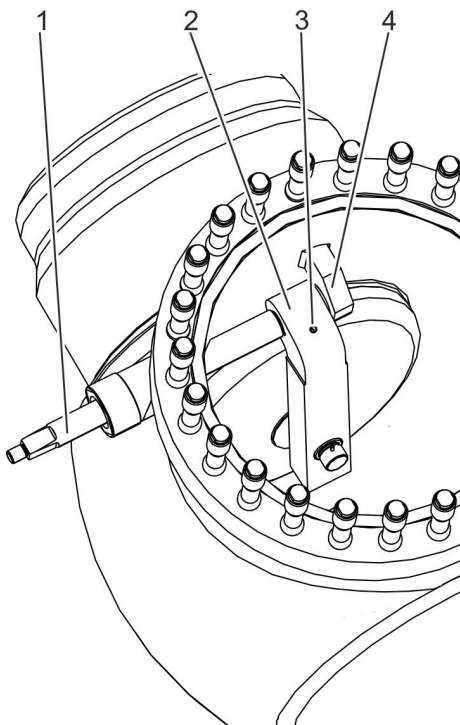

Fig. 26: Attaching the valve shaft
13. ➤ Insert the valve shaft (Fig. 26/1) in the disc lever (Fig. 26/2) and the retaining element (Fig. 26/4) in the body.
14. ➤ Remove the ring bolt from the bore (Fig. 26/3) in the disc lever.